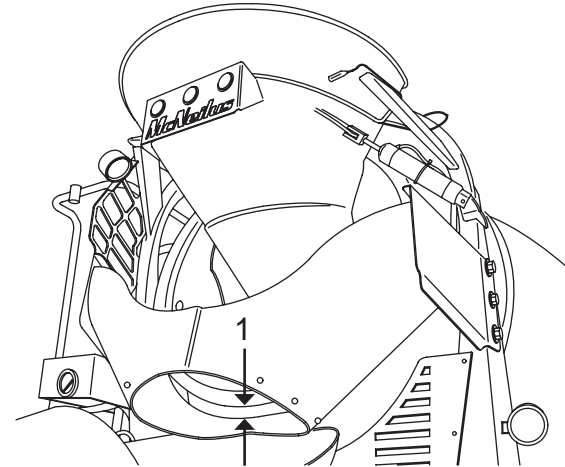

Figure 108
5. Check the discharge hopper-to-drip ring clearance (Figure 108, Item 1). Clearance should be 2 inches (51 mm) between the discharge hopper face and the drip ring, and no more than 1 inch (25 mm) radially around the drip ring.